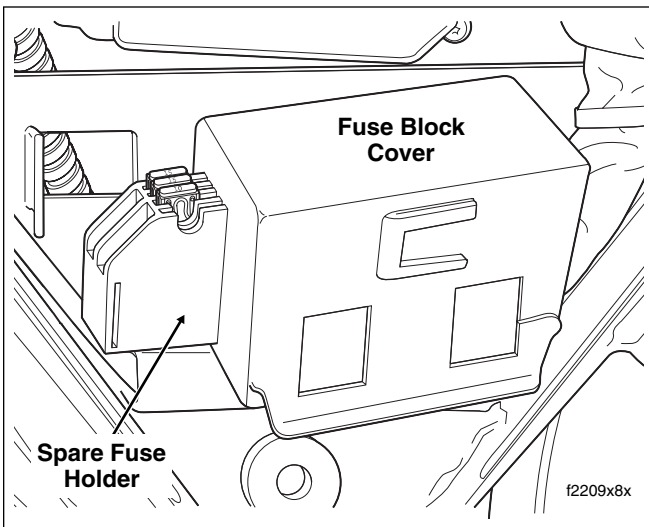

Figure 8-4. Fuse Block Cover
- Remove the fuse block cover. Raise lipped side slightly to disengage slots from tabs on fuse block. See Figure 8-4.
- Slide cover over fuse block until slots fully engage tabs on block. See Figure 8-4.